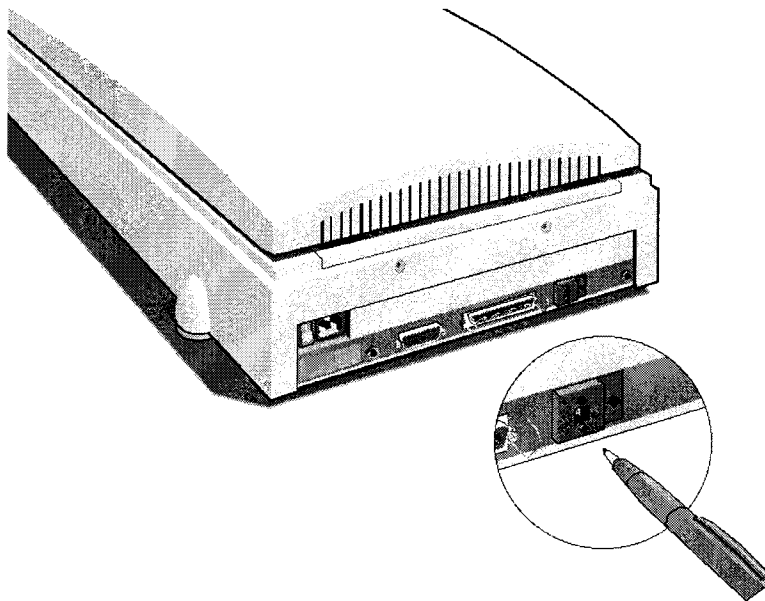

Fig. 3.1 Setting the SCSI ID number.
- 3 Insert a pencil into one of the small holes above or below the SCSI ID number at the rear of the densitometer (Figure 3.1).